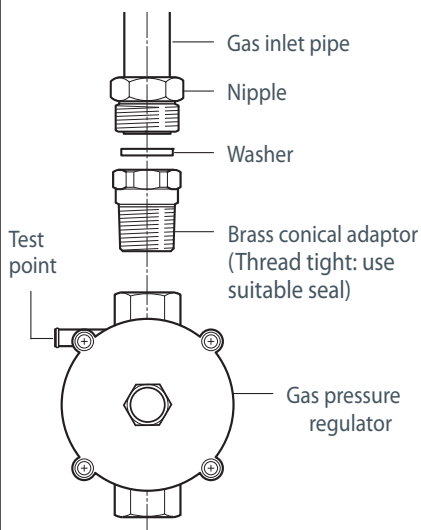

Fig. 13 Natural gas connection
- For Natural gas, connect the gas supply to the gas pressure regulator which is supplied with the appliance (Fig.13). Adjust the regulator to obtain a test point pressure of 1 kPa with the two semi rapid burners operating at the maximum.
- It is important that the hose does not come in contact with the metal of the appliance and is secured as per appropriate gas installation codes. A chain 80% of the length of the flexible gas hose must be used to prevent stress being applied to the hose. The chain should be attached securely to the product where shown (see Fig.13), and on the wall.